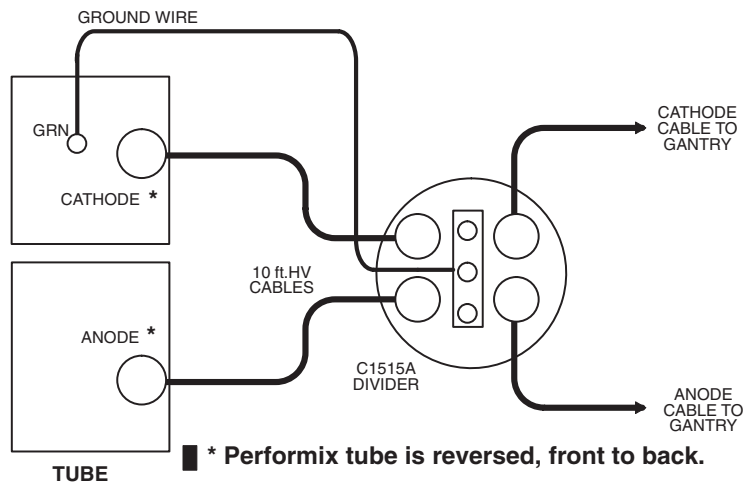

Figure 44 - HV Divider Installation
- 2.) Add a ground wire (minimum size of AWG 12) from Tube ground to bleeder ground. Refer to Figure 44.
- d.) Remove the **HV** Divider between the Tube and Tanks (Figure 44, on page 52).